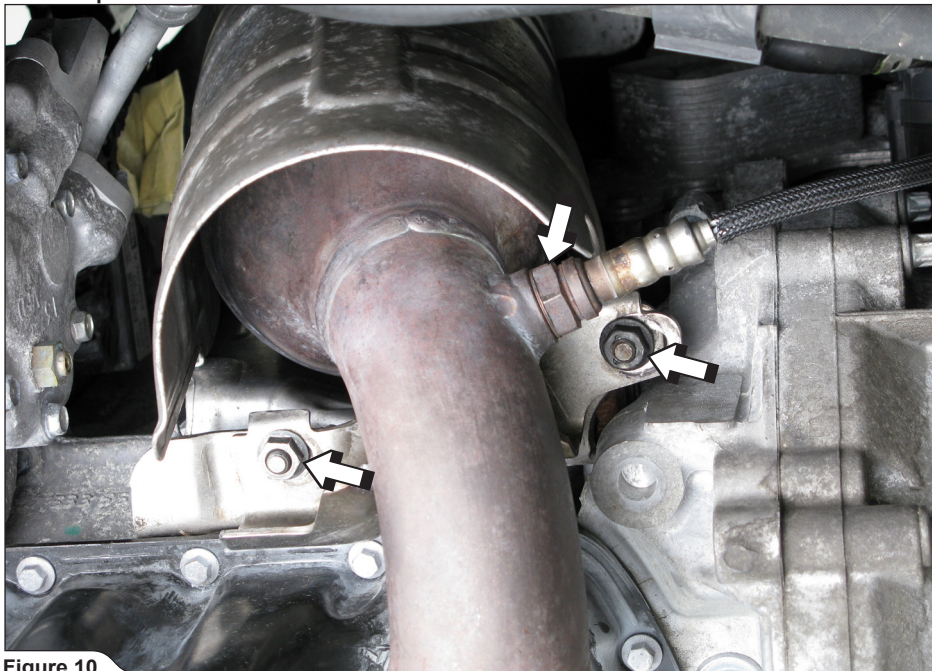

Figure 10
8. **For Optional Down Pipe only:** unscrew the lower lambda sensor and down pipes' bracket (Figure 10). Remove the down pipe off the vehicle.